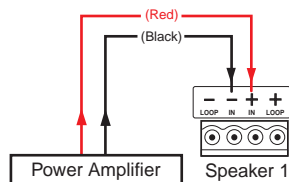

Figure 12. Wiring a Single Speaker
- **Wiring a Single Speaker:** Connect the wires to the captive screw connectors of the speakers as shown in figure 12. Be sure to tighten the screws.